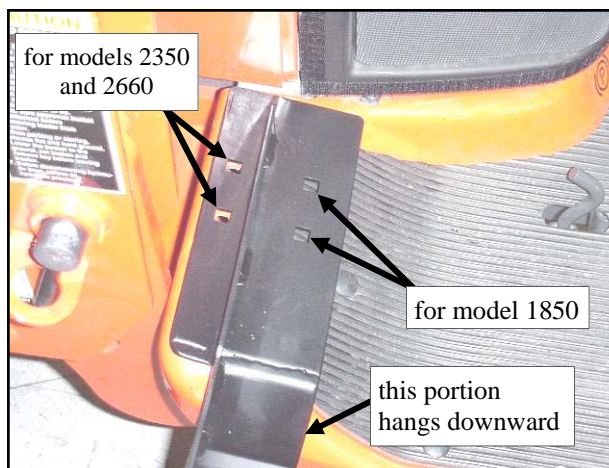

Fig. 7.2 (view from front of left side)
**7.2** Per fig. 7.2, line up and use the two appropriate bolt holes. Note on orientation: the outer bracket portion is to be below the floorboard level as shown in fig. 7.2. For models 2350 and 2660, use the two front (outboard) holes. For model 1850, use the two rear (inboard) holes.